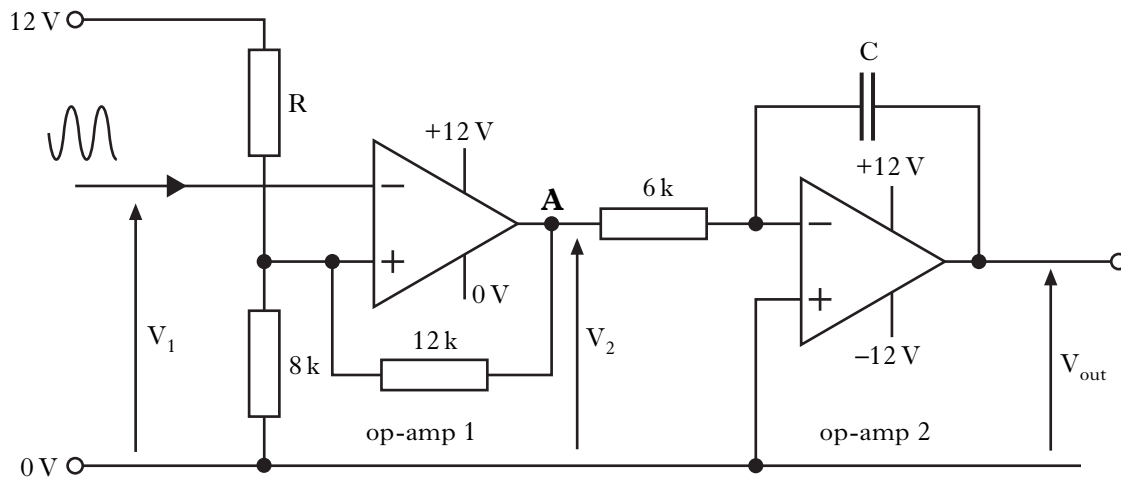

Figure Q3
3. A student is investigating the op-amp circuit shown in Figure Q3.